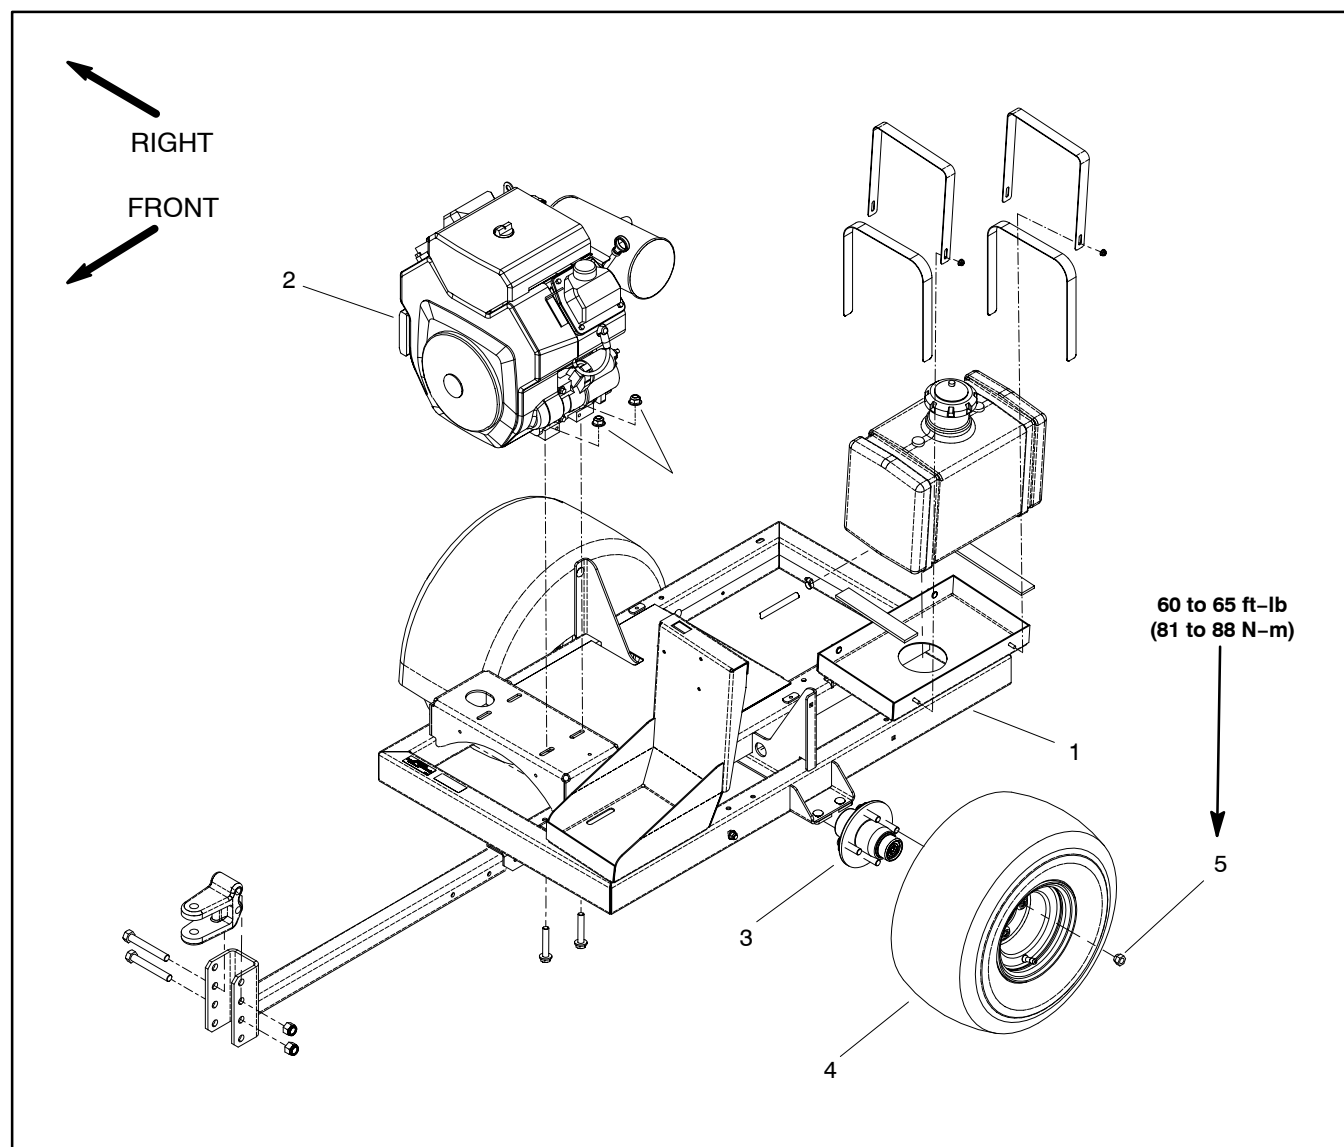

Figure 2
**Wheel Removal (Fig. 2)**
3. Loosen but do not remove four (4) lug nuts that secure wheel to be removed.
**Wheel Installation (Fig. 2)**
2. Secure wheel to ProForce blower with four (4) lug nuts.